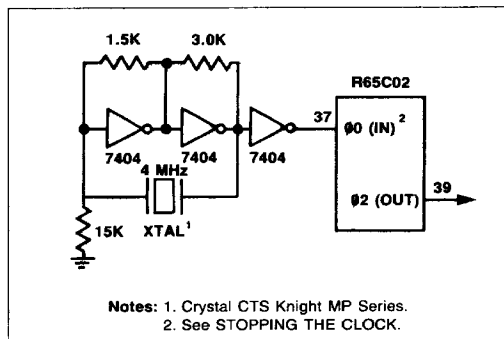

Figure 6. Example of R65C02 External Time Base Generator Circuit
Figure 6 shows a time base generation scheme, for a 4 MHz operation of the R65C02, that has been tested and proven reliable for normal environments.
As with any clock oscillator circuit, stray capacitance due to board layout can affect circuit operation requiring "fine tuning" (e.g. component repositioning or value change) of the circuits shown in Figures 6 and 7. Shunt capacitance (C) includes stray capacitance.